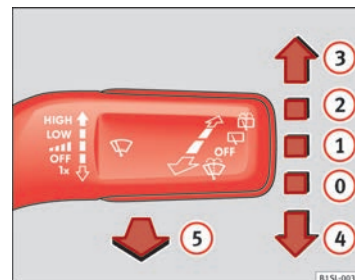

Fig. 60 Using the windscreen wipers
- Press the windscreen wiper lever downwards briefly ⇒ Fig. 60 ④.